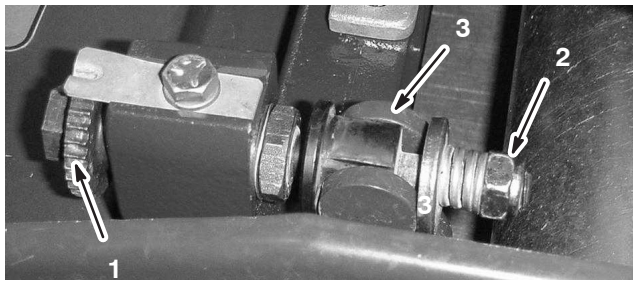

Figure 47
1. Turn bedbar adjuster screw, counterclockwise, to back bedknife away from reel (Fig. 47).
2. Back out the spring tension nut, until the washer is no longer tensioned against the bedbar (Fig. 47).